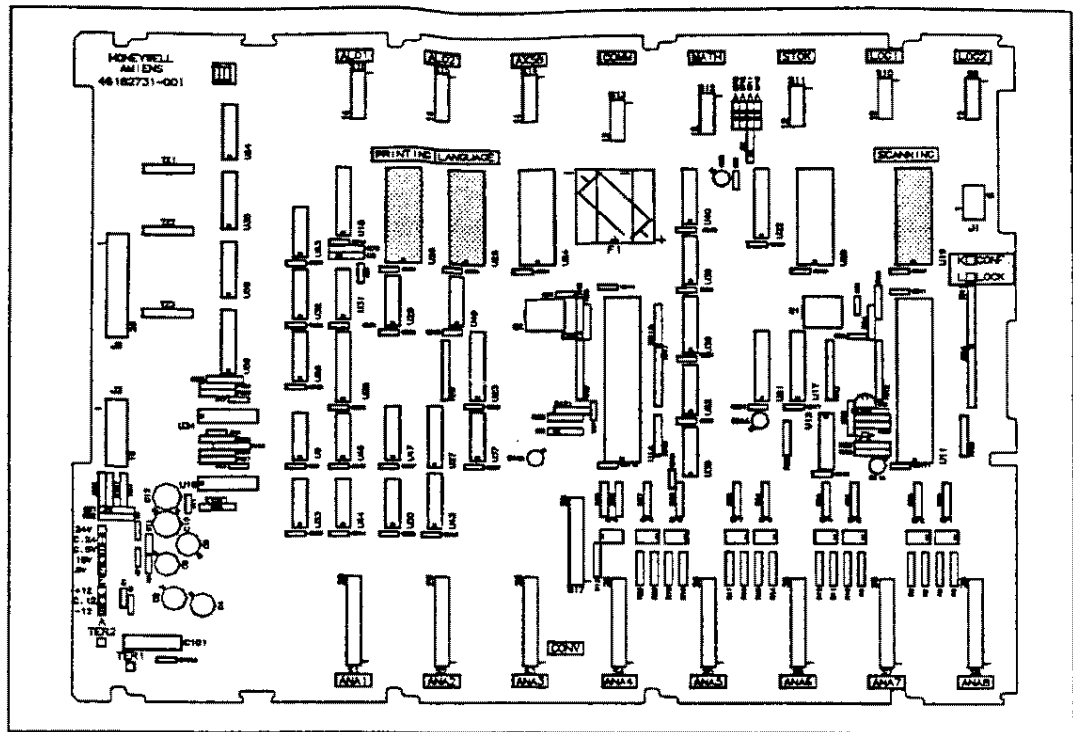

Figure 1-4 Locating the EPROM components (after 9039)
3. For mother boards issue III (figure 1-4)